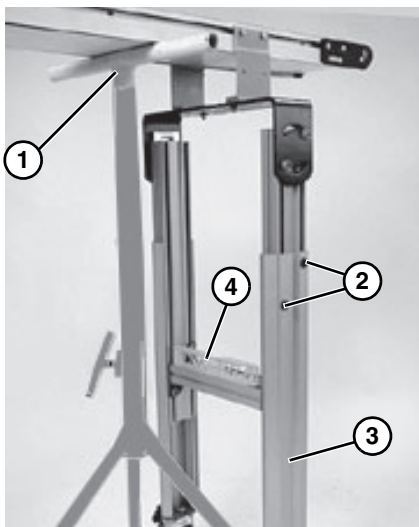

Figure 22
1. Using a support (Figure 22, item 1), raise conveyor and stand off the floor.
2. Loosen button screws (Figure 22, item 2).
3. Raise or lower stand leg (Figure 22, item 3) to the required height. Level stand from side to side using a level (Figure 22, item 4).
Failure to secure screws (Figure 22, item 2) may cause conveyor sections to drop down causing severe injury. TIGHTEN SCREWS (Figure 22, item 2) AFTER ADJUSTMENT.
4. Tighten button screws (Figure 22, item 2) to 150 in-lb (17 N-m).
1. Loosen button screws (Figure 22, item 2).
<p>Failure to secure screws (Figure 22, item 2) may cause conveyor sections to drop down causing severe injury.</p> <p>TIGHTEN SCREWS (Figure 22, item 2) AFTER ADJUSTMENT.</p>
3. Tighten button screws (Figure 22, item 2) to 150 in-lb (17 N-m).